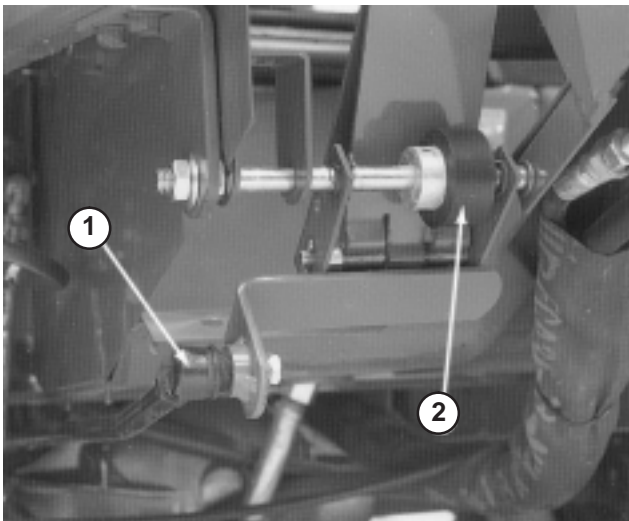

Figure 37
4. Adjust control rod end (Fig. 37) until there is a .12" gap between top of traction pedal stop screw and pedal. Tighten lock nuts.
1. Loosen two nuts securing traction pedal shaft on right side of pedal (Fig. 37).